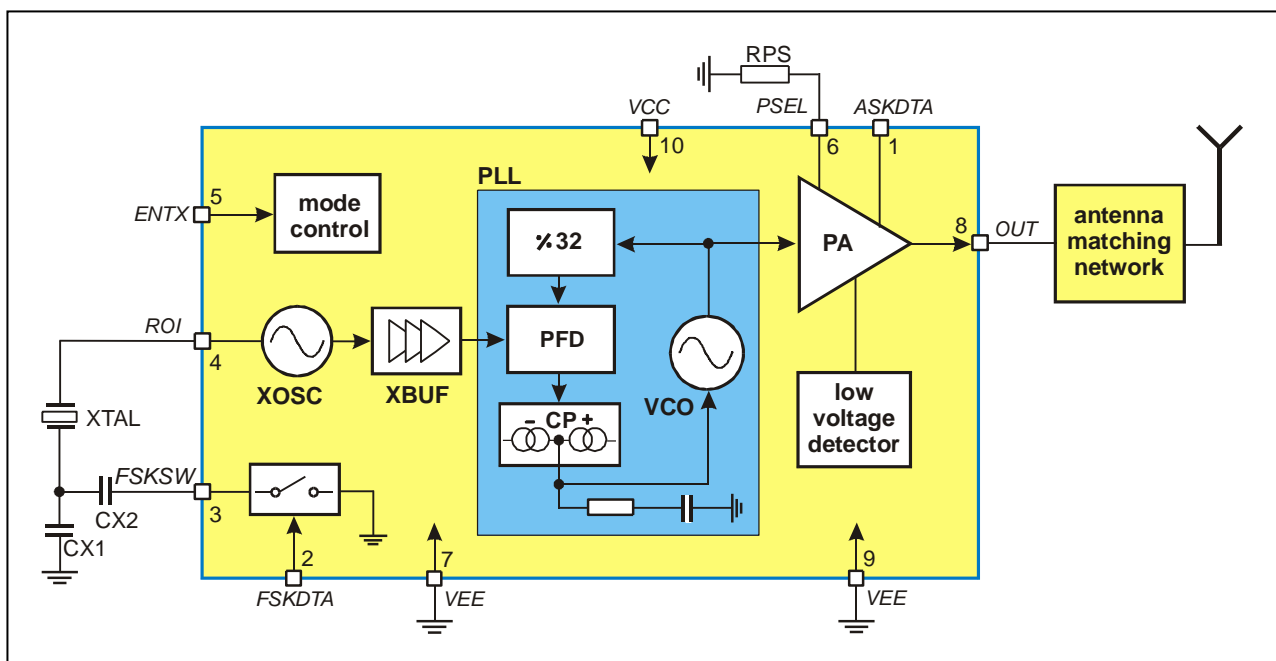

Fig. 1: Block diagram with external components
As depicted in Fig.1, the TH72035 transmitter consists of a fully integrated voltage-controlled oscillator (VCO), a divide-by-32 divider (div32), a phase-frequency detector (PFD) and a charge pump (CP). An internal loop filter determines the dynamic behavior of the PLL and suppresses reference spurious signals. A Colpitts crystal oscillator (XOSC) is used as the reference oscillator of a phase-locked loop (PLL) synthesizer. The VCO's output signal feeds the power amplifier (PA). The RF signal power P_{out} can be adjusted in four steps from $P_{out} = -11$ dBm to +9.5 dBm, either by changing the value of resistor RPS or by varying the voltage V_{P5} at pin PSEL. The open-collector output (OUT) can be used either to directly drive a loop antenna or to be matched to a 50ohm load. Bandgap biasing ensures stable operation of the IC at a power supply range of 1.95 V to 5.5 V.